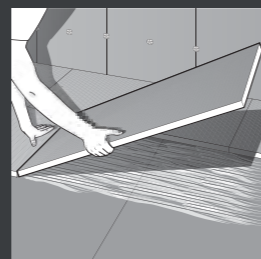

fig 9
**8** Build up the surrounding floor area with the correct thickness of Dukkaboard as required using flexible, cement-based tile adhesive. **See fig 9.**